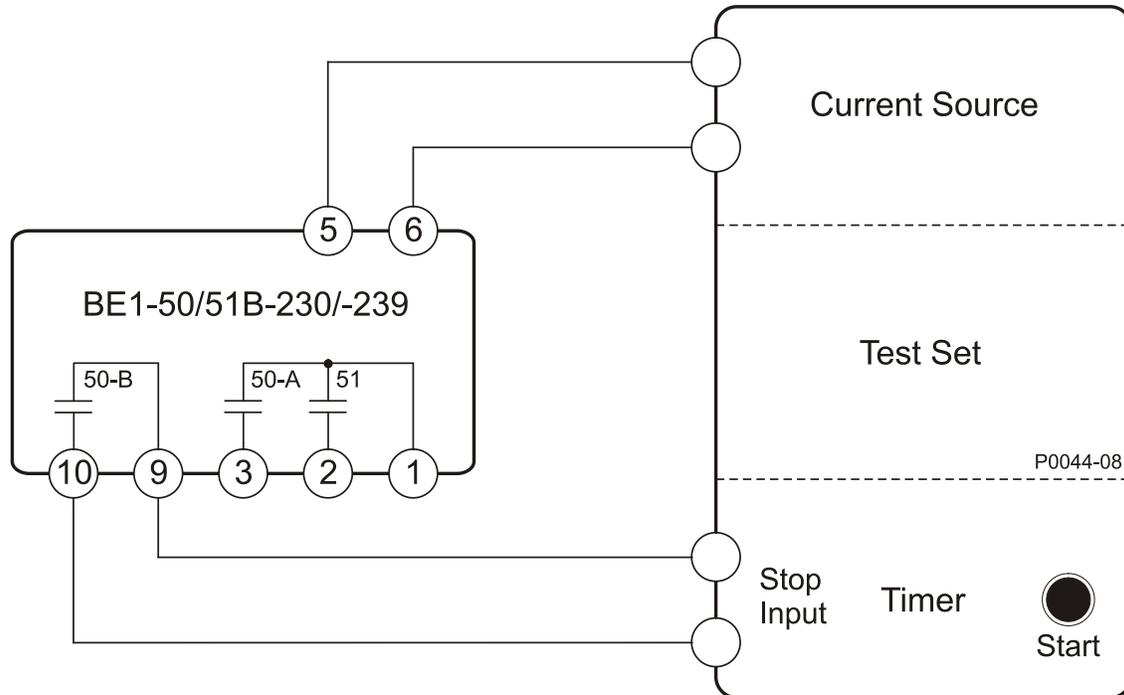

Figure 5-3. 50-B Pickup Test Setup
- a. Connect the test setup shown in Figure 5-3.